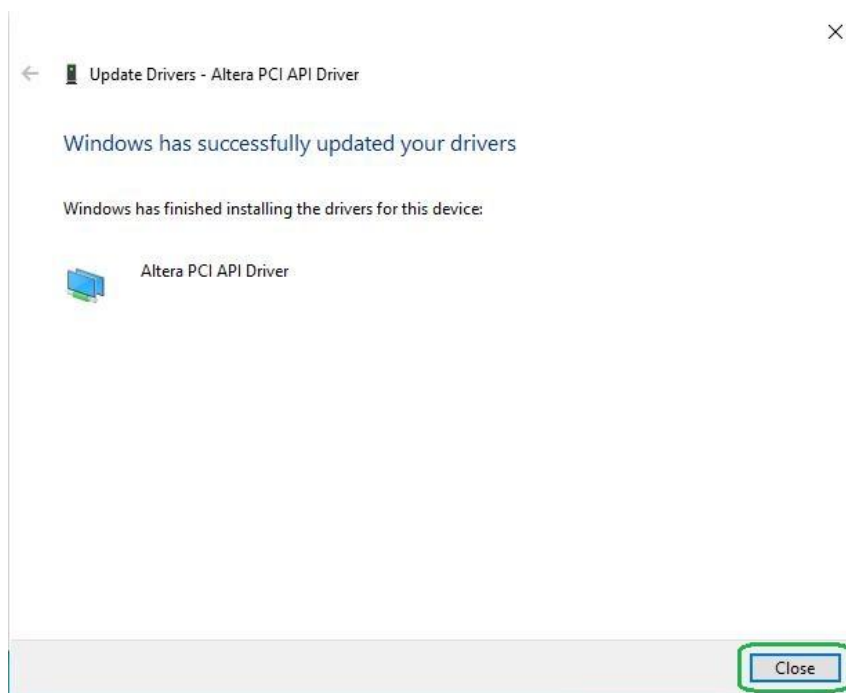

Figure 6-7 Click Close when the installation of PCI Driver is complete
11. When the driver is installed successfully, the successfully dialog will appears, as shown in **Figure 6-7**. Click the **Close** button.